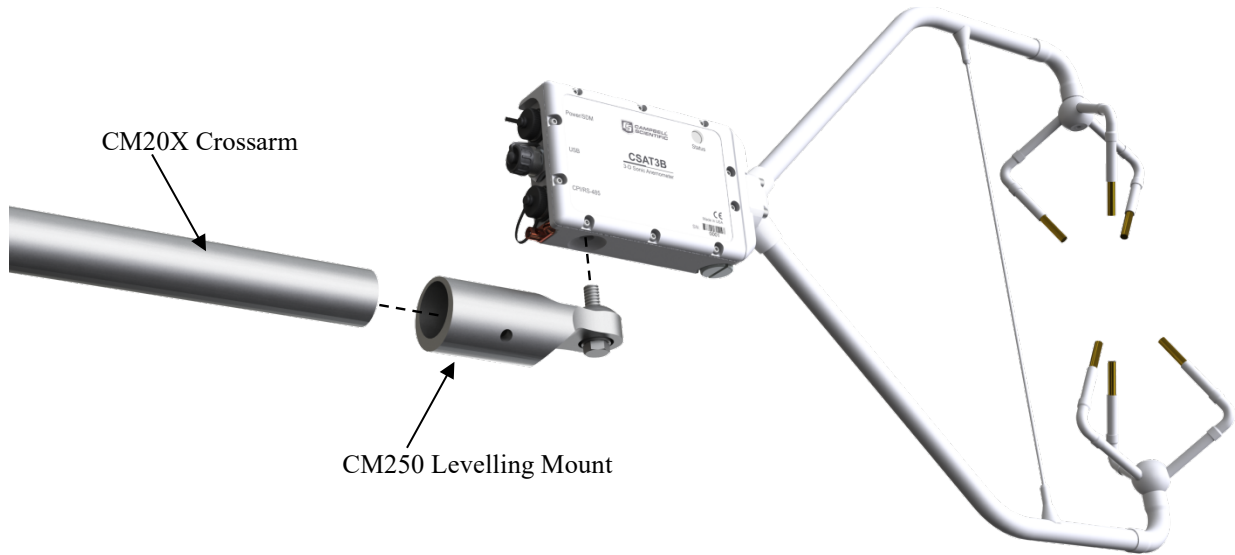

FIGURE 7-4. CSAT3B mounting
3. Attach the CM250 levelling mount (included with the CSAT3B) to the crossarm by tightening the set screws on the boom adapter with a 3/16-in hex socket head wrench. Refer to FIGURE 7-4.
4. Attach the CSAT3B to the levelling mount by inserting the bolt on the mount into the threaded hole on the bottom of the CSAT3B block as shown in FIGURE 7-4.